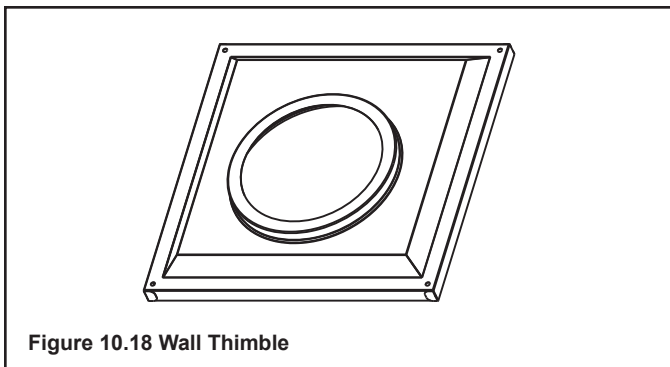

Figure 10.18 Wall Thimble
- Once the pipe section and the termination cap have been connected, slide the wall thimble up to the interior wall surface and attach with screws provided. See Figure 10.18.